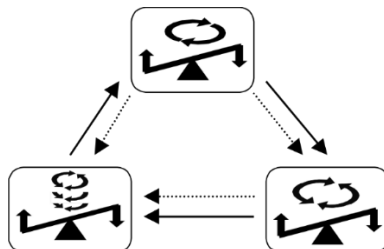

Fig.1. Innovative mixing cycle
- all three in one cycle (Fig. 1).